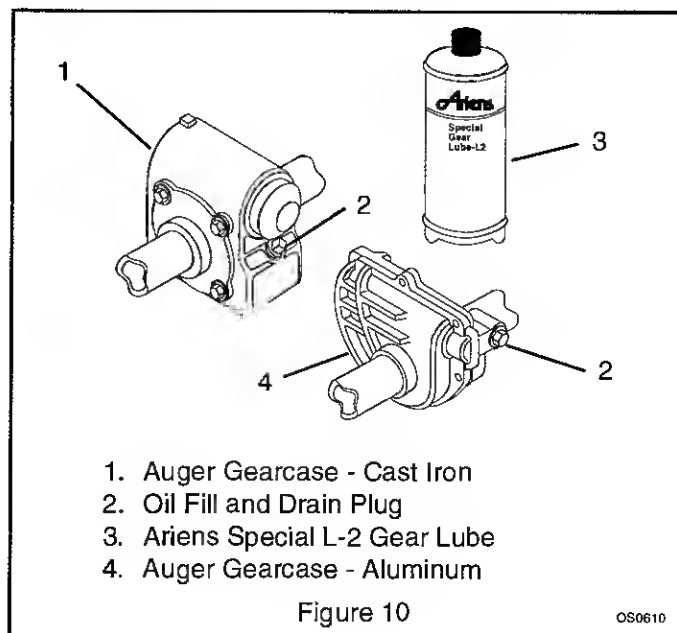

Figure 10
2. Add lubricant (Figure 10), if required. Allow oil to drain to level of plug and replace plug.